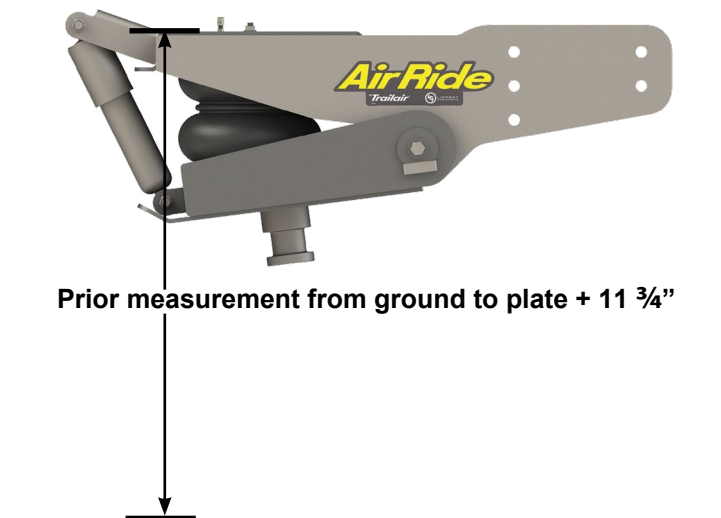

Fig.5
6. For the Air Ride and Flex Air pin boxes with air bags, measure from the ground up to the flat plate of the upper jaw of the pin box. Once the pin box is aligned, that measurement should be equal to the ground-to-plate measurement taken in step 2 during Removal of the Pin Box plus $11 \frac{3}{4}$ " (Fig.5).